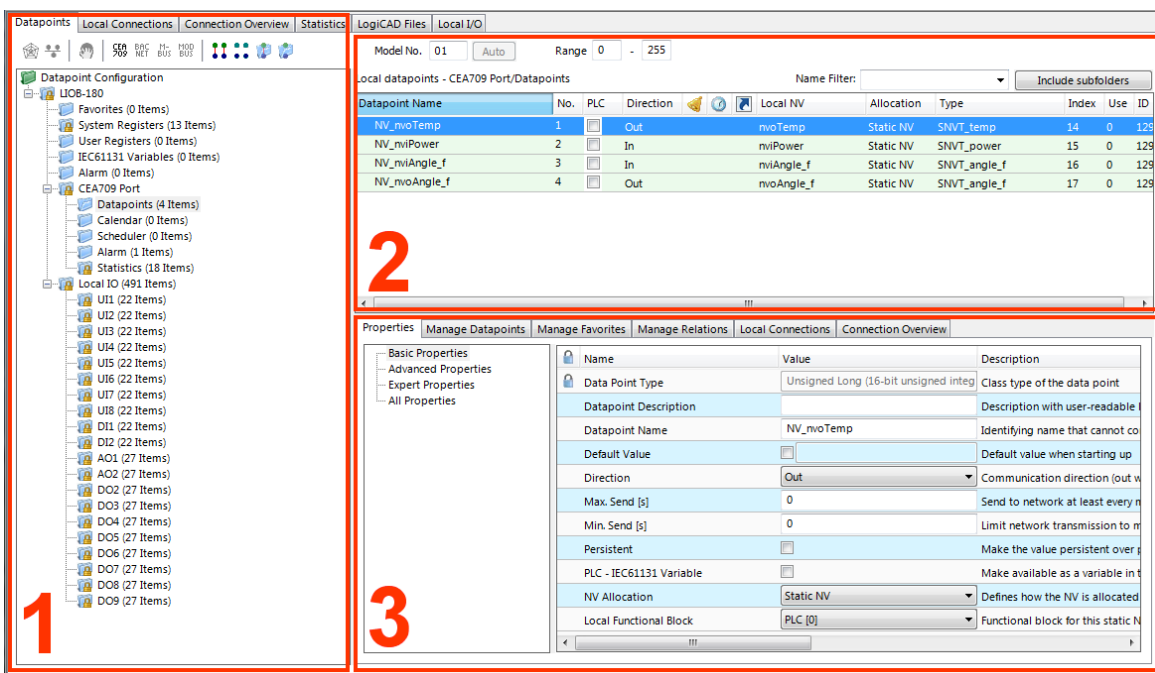

Figure 82: Data Point Manager Dialog
The Configurator uses a central concept to manage data points. The data point manager is located on the **Datapoints** tab as shown in Figure 82. It is used to select, create, edit and delete data points. The dialog is divided into three sections:
- The folder list (number 1 in Figure 82),
- The data point list (number 2 in Figure 82),
- And a property view (number 3 in Figure 82).